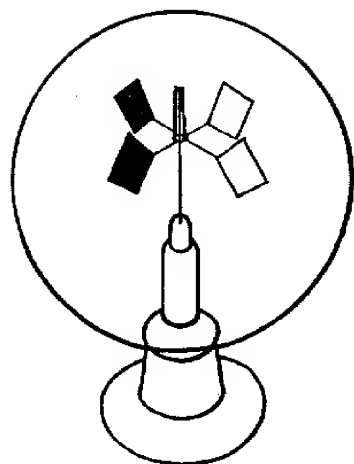

Fig. 249
Can you discover what a radiometer is and how it works? (10) (Fig. 249). Remember that the gas molecules in contact with a vane will be heated if the surface of the vane is hot.